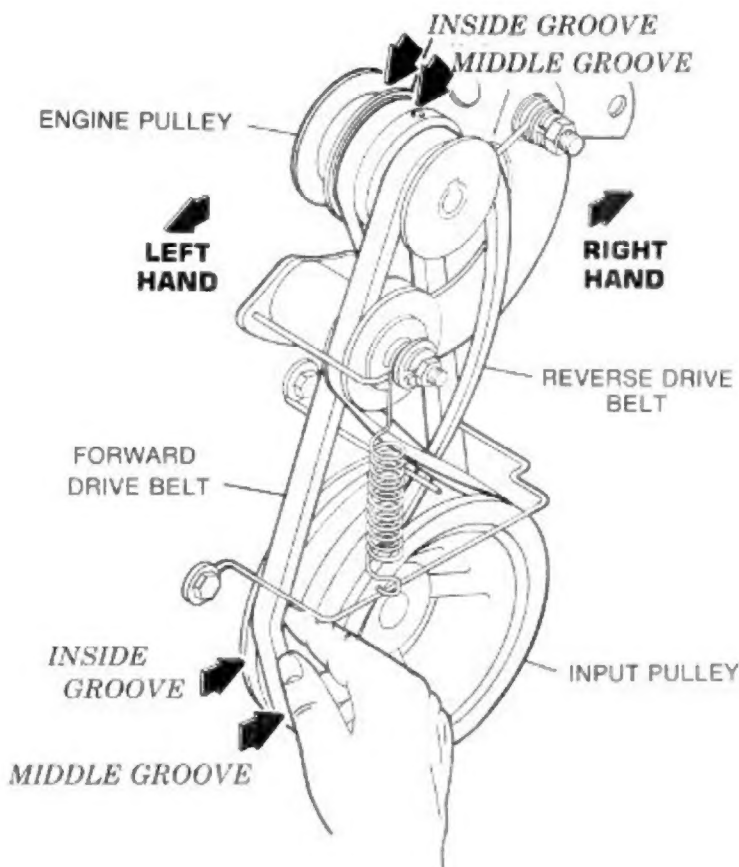

FIG. 13
The engine pulley and the input pulley on this tiller have three (3) V-belt grooves. The outer groove, Fig. 13, is for the reverse drive belt only. The inner two (2) grooves are for 2-speed combinations. To move the forward drive belt from one groove to another, follow the outlined procedures below.
6. From the left-hand side of input pulley, slide belt out of middle groove, Fig. 13, towards inside groove, as far as possible.